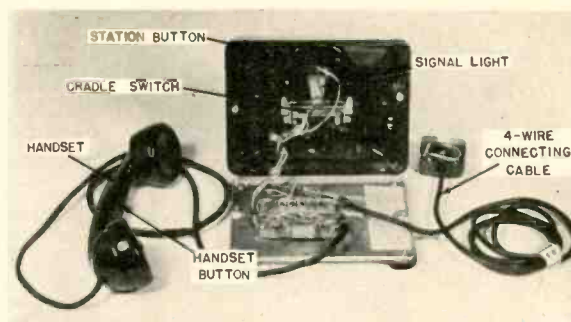

Fig. 11. Inside view of the executive desk station.
The stations (Fig. 11) are modified telephone sets, employing the standard carbon button transmitter and magnetic receiver. The dictator can perform the functions of (1) seize the system; (2) start and stop; (3) signal correction; (4) signal end of dictation; and (5) play back a portion of the recording. Seizure is accomplished by removing the handset from the hanger. As basic TeleVoice is a party line system, the signal light is turned on in all stations by this act. Thus another dictator need not lift his handset to determine whether the line is busy or free.